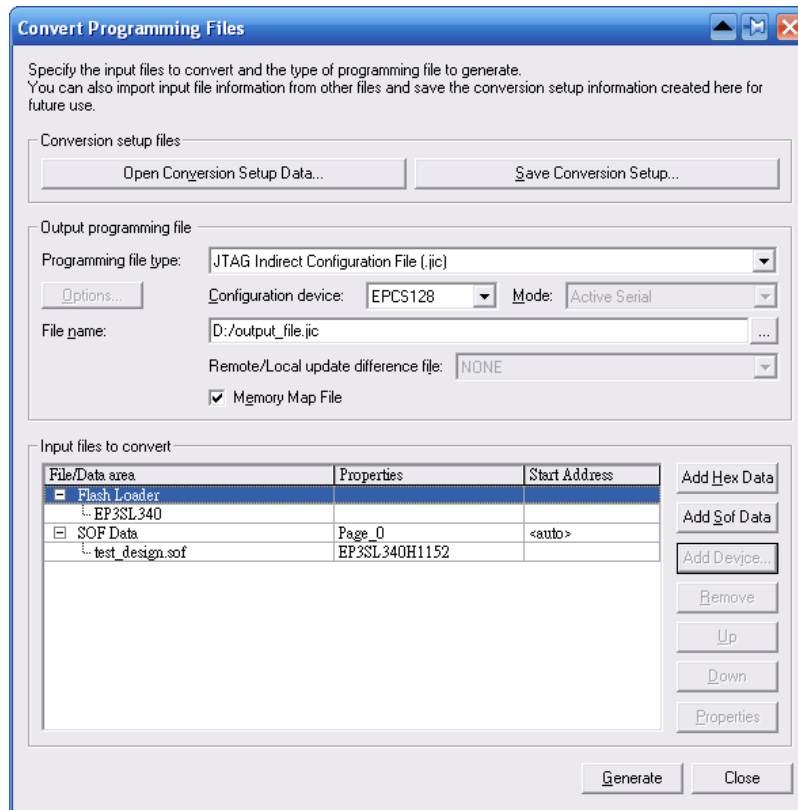

Figure C.4. Convert Programming Files Page
12. Click OK. The **Convert Programming Files** page displays. See Figure C.4.